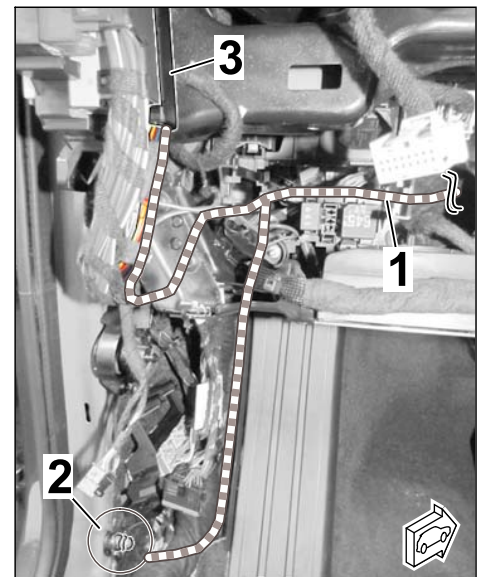

Figure 25
2.4.7 Route branch for power supply/ground (line BN; 1.0² with cable ring eyelet and line RD/YE; 1.0²) from wire harness for engine noise control unit/pulse sender) to the passenger compartment as follows (⇒ Figure 25):
- 3 (2) – Fuse strip A